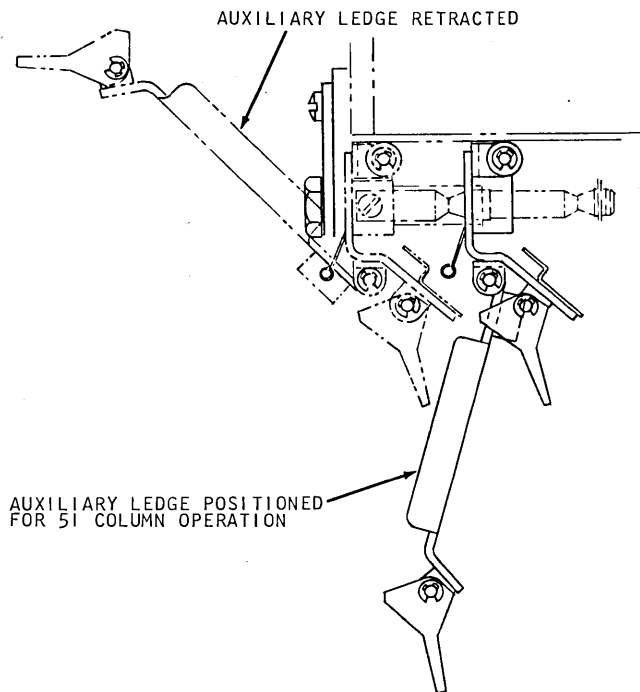

Figure 25. Auxiliary Ledge
4. Lift the auxiliary stacker ledge cover and pull each auxiliary ledge from its upper locked position. Push each upper ledge toward the rear of the machine to a locked position. Swing the auxiliary ledges into respective pockets. (Figure 25.)